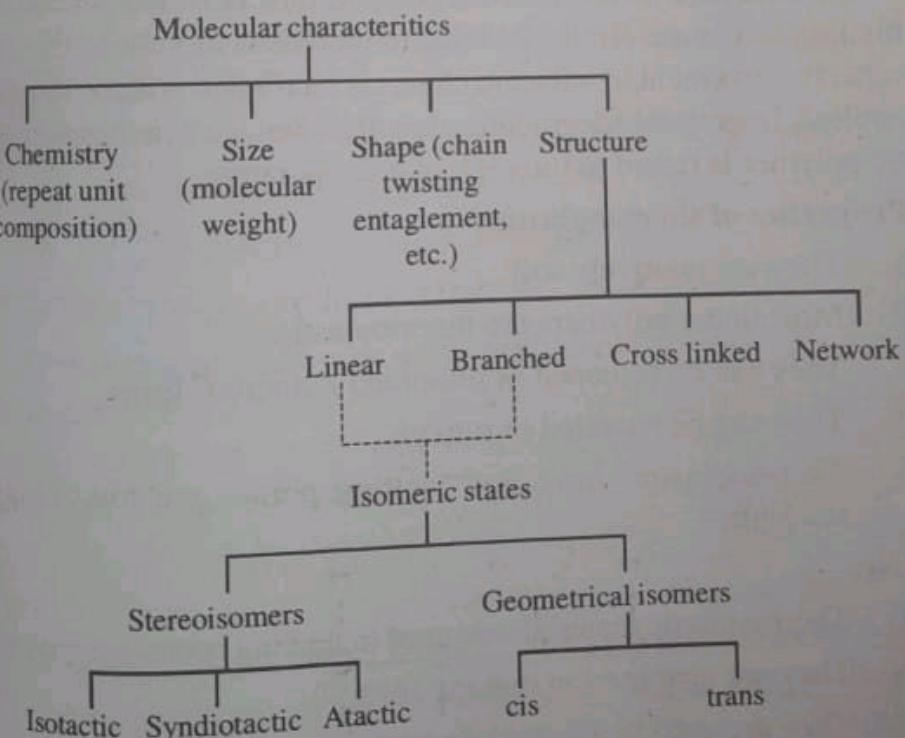

Figure 7.11: Taxonomy chart
4. molecular structure (linear, branched, cross linked and network structures are possible in addition to several isomeric configurations such as isotactic, syndiotactic, atactic, cis and trans. The molecular characteristics taxonomy chart is given in figure 7.11.